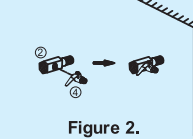

Figure 2.
1. First, fix the SS ball valve (marked as no. 4) to the 1/4 inch port of the 3-way connector (marked as no. 2) as shown in figure 2.
2. Similarly, connect one end of the white pipe to the lower elbow fitting connector in tank labelled as REJECT WATER and leave the other end in the drain, as shown in fig 2.